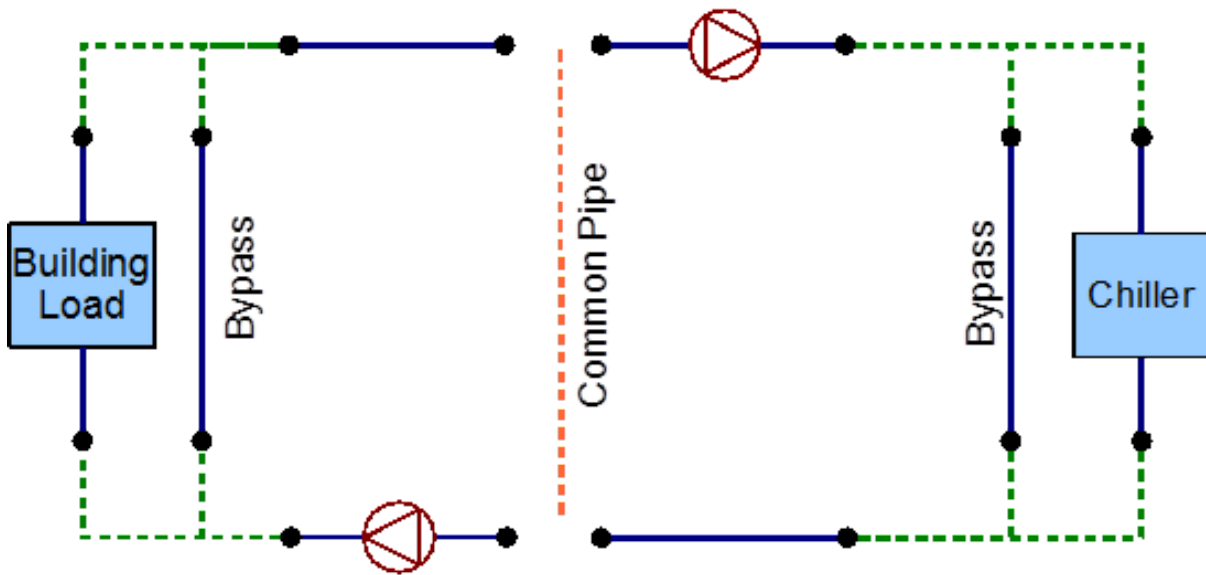

Figure 4.7: Branch definition
6. **Identify all the branches in the system.** Remember to add the bypass branches to the operating components (except the pumps). Branches have to start and end with nodes, and should contain at least one component. The branches are denoted by the blue lines in Figure 4.7.